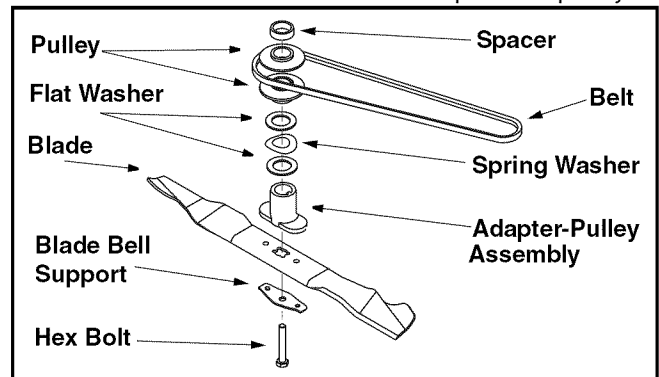

Figure 11
- Remove the hex bolt which holds the blade adapter-pulley assembly to the engine crankshaft. See Figure 11. Remove the pulley assembly and the bell support from the crankshaft.